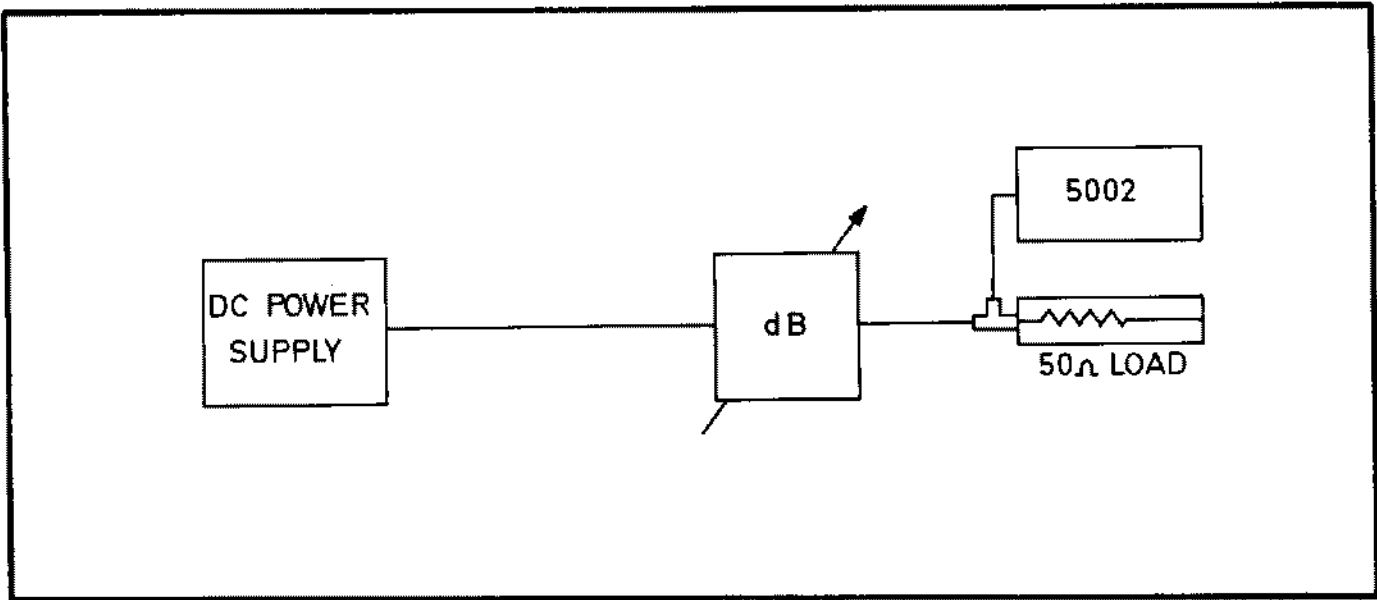

Fig. 6.3 DC Channel Setting
6.5.10.2 Connect the test equipment as shown in Fig. 6.3.